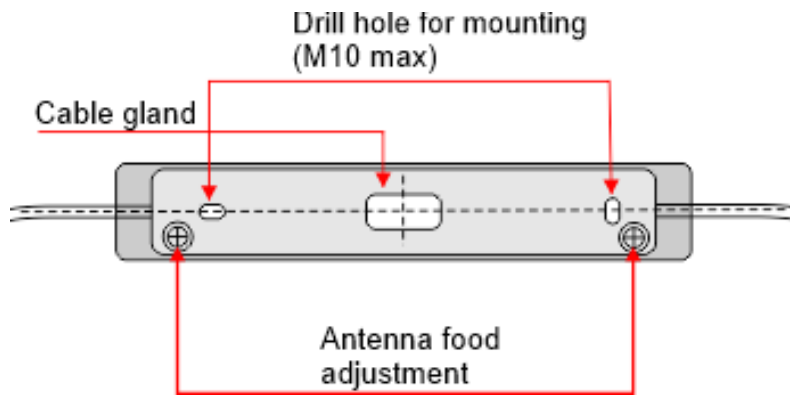

Figure 10: Drill hole mounting
2. Mark and drill the mounting holes and the openings for the cable entry. The dimensions are shown in Fig.10/11.